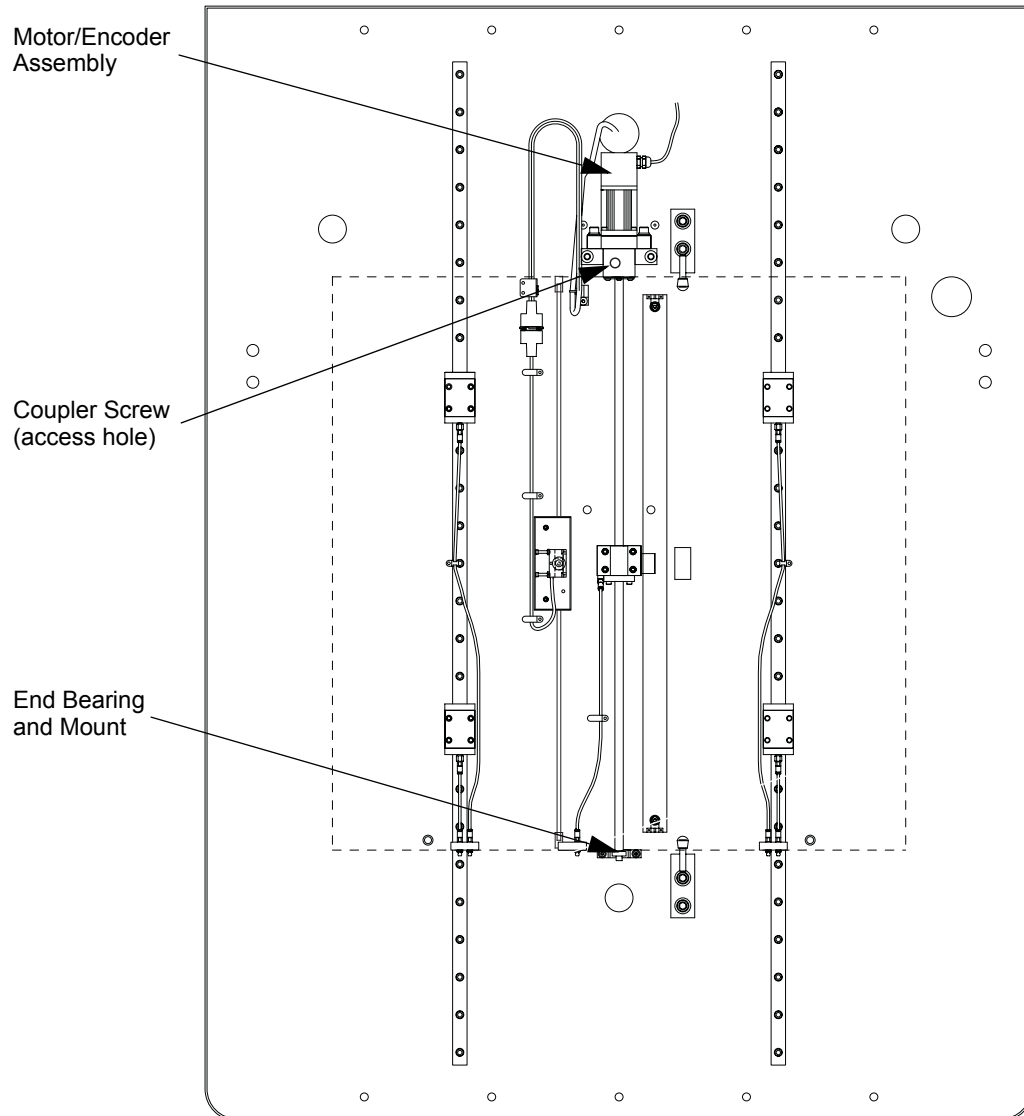

Figure 9-13 Y-Axis Motor Assembly
4. Turn the leadscrew stop until the coupler screw is visible through the access hole in the bearing block; see Figure 9-13.